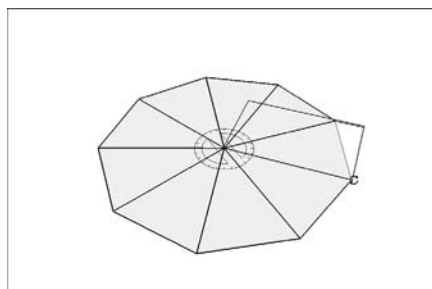

Figure 6-5:
5. Make copies of your wedge component instance with the Rotate tool (see Figure 6-5).